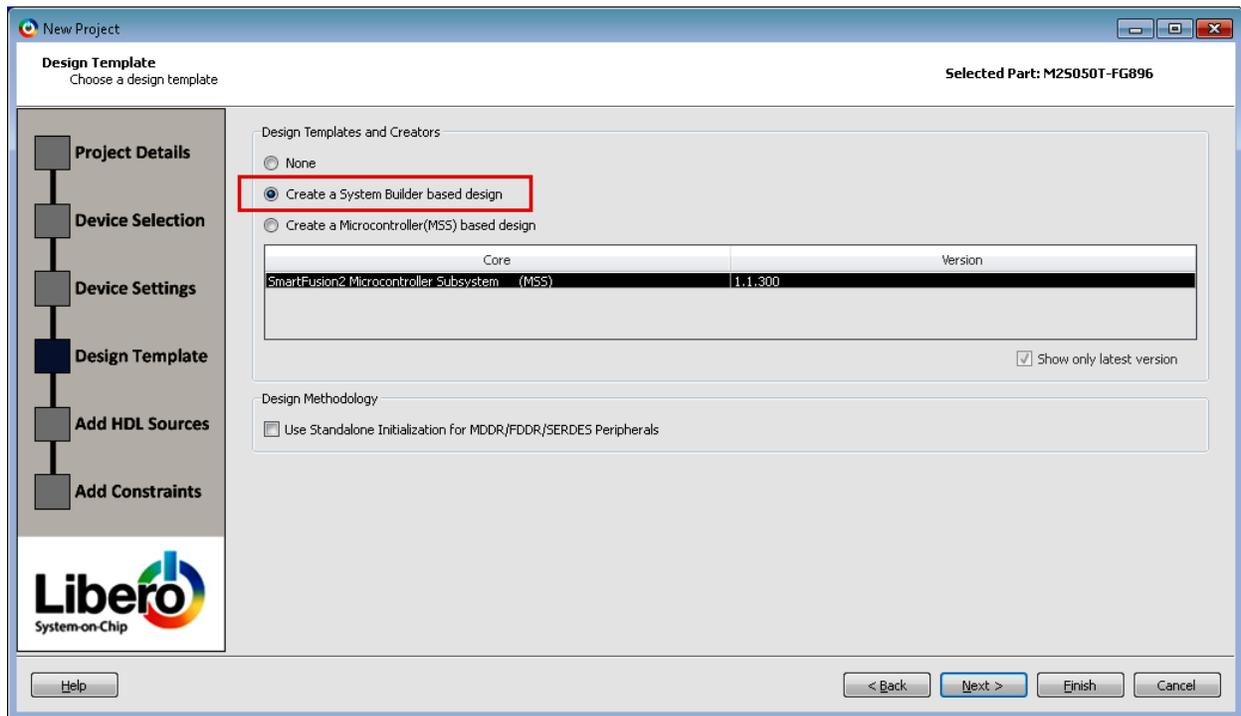

Figure 6 • Device Template Window
- Click **Next**. In the **Design Template** window, select **Create a System Builder base design** under **Design Templates and Creators** as shown in Figure 6.